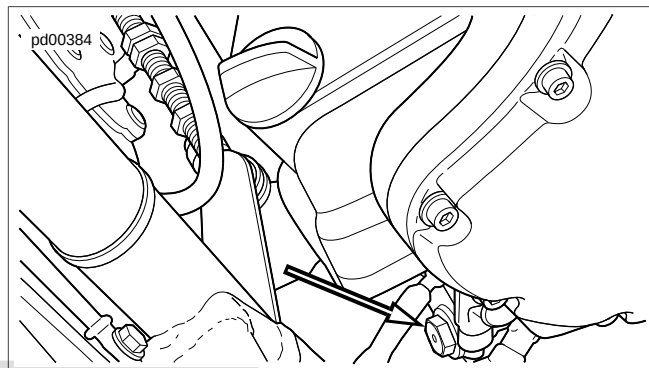

Figure 1-4. Oil Drain Plug (typical)
- See Figure 1-4. Remove the engine oil drain plug at front of oil pan on left side. Allow oil to drain into a suitable container.
- See Figure 1-4. Install oil drain plug.